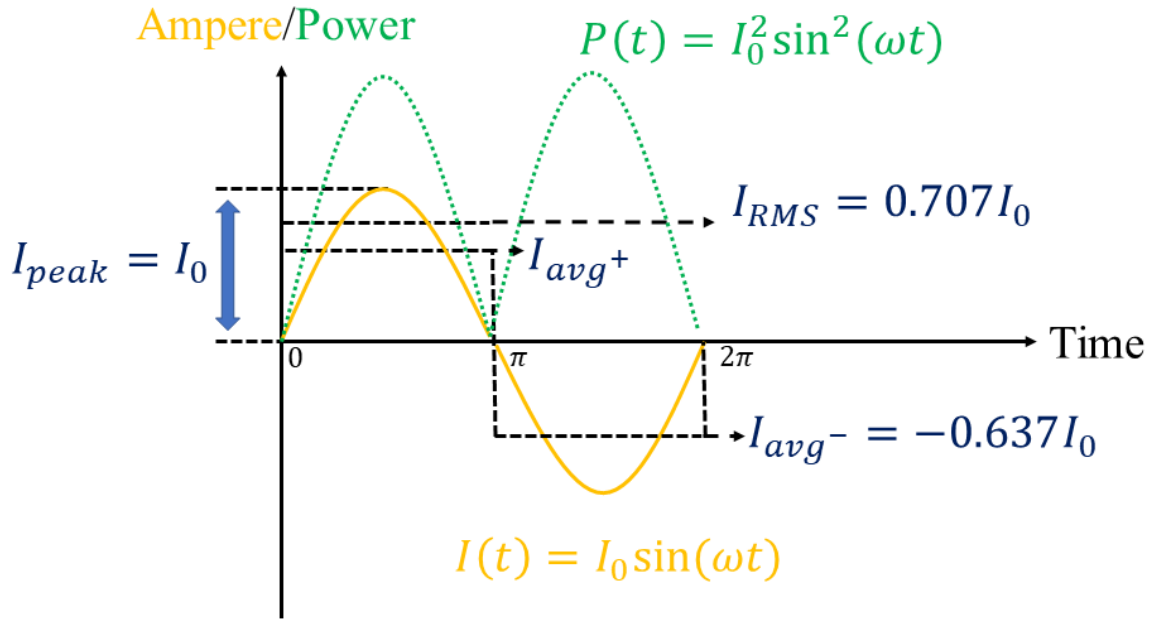

Figure 1.3. The *RMS* value of an alternating current (AC).
From formula (12), we can infer that for a sinusoidal wave function without any offset, the *RMS* value will be 0.707 times of its peak value I_0 . A comparison between the *RMS* value of AC current and the average current is shown in **Fig. 1.3**.